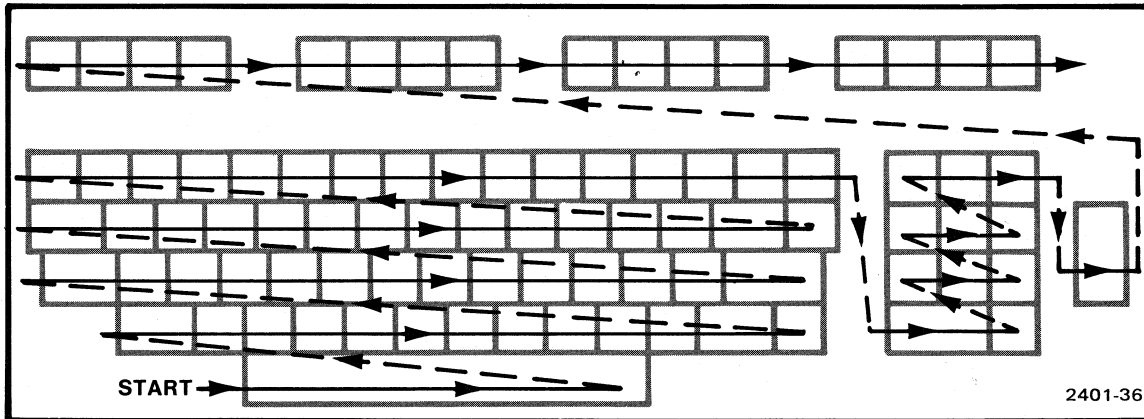

Figure F-6. Order to press keys during keyboard test.
4. To test the keyboard, press each of its keys in turn. You must press them in the order shown in Figure F-6, as follows: